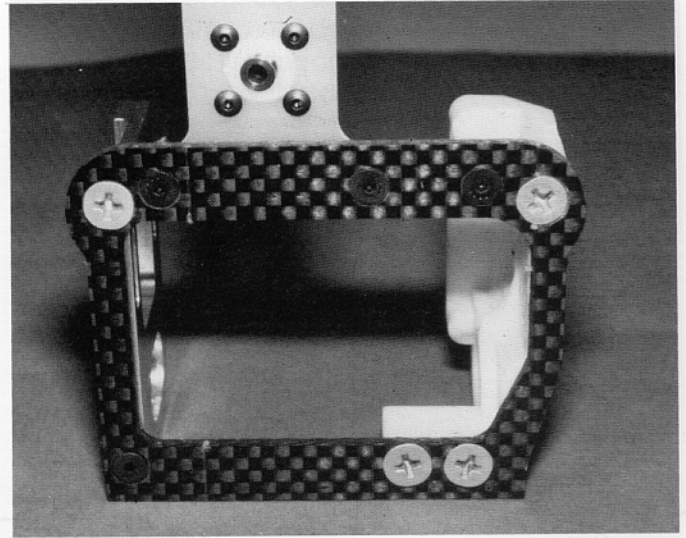

**Fig. 21**
□ **Figs. 21 & 22**—Install the right hand #4347 aluminum bulkhead onto the lower brace as shown. If you have the fiberglass kit, install the right hand #4346 plastic bulkhead with the three aluminum screws.